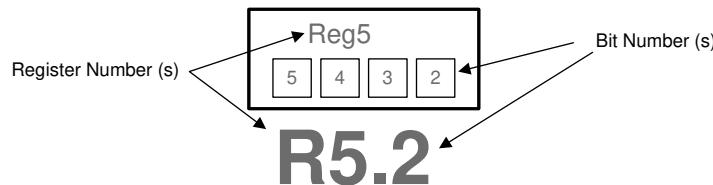

Figure 8-1. LMK61E07 Register Reference Format
Figure 8-1 shows the method that this document employs to refer to an individual register bit or a grouping of register bits. If a drawing or text references an individual bit, the format is to specify the register number first and the bit number second. The LMK61E07 contains 38 registers that are 8 bits wide. The register addresses and the bit positions both begin with the number zero (0). The bit address is placed in brackets or after a period. The first bit in the register file is address R0[0] or R0.0 meaning that it is located in Register 0 and is bit position 0. The last bit in the register file is address R72[7] or R72.7, referring to the 8th bit of register address 72 (the 73rd register in the device). Figure 8-1 also lists specific bit positions as a number contained within a box. A box with the register address encloses the group of boxes that represent the bits relevant to the specific device circuitry in context.